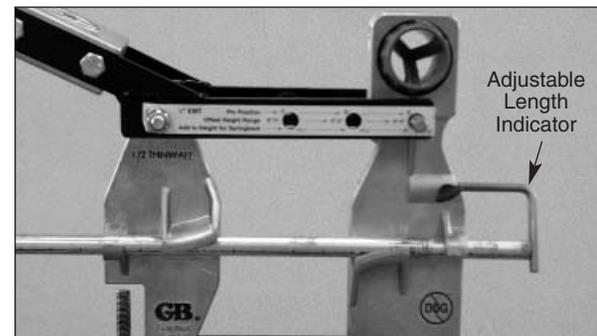

Figure 9
1. An adjustable length indicator is located on the front edge of the bend frame. The indicator has a maximum travel of 4 inches. See Figure 9.
2. Position the conduit into the bending jaws. Loosen the thumb screw and move the indicator until it contacts the end of the conduit. Tighten the thumb screw. See Figure 9.